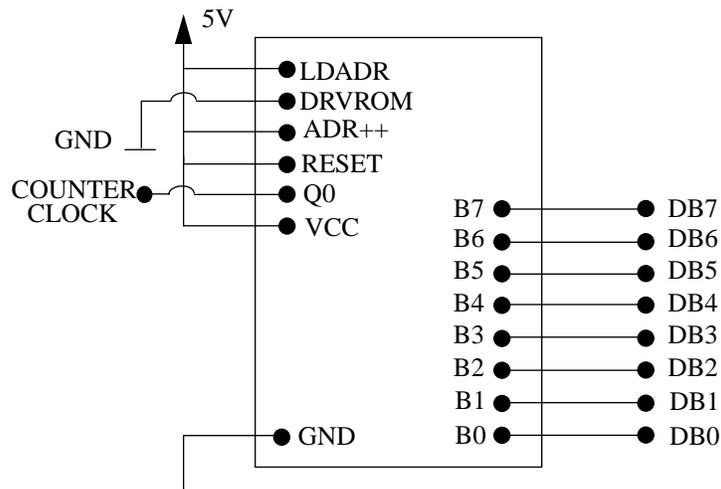

Figure 1: pin assignments for the printed circuit board that contains the counter and memory.
Figure 1 shows the pin assignments for the printed circuit board. The pins for the eight memory output data bits are on the right hand side. The pins for power and ground, and the clock input to the counter are on the left hand side. You should connect the power pin to the 5-V power supply on the protoboard, and the ground pin to ground on the protoboard. There are also four counter and memory control pins which must be
connected to the 5-V power supply and ground as shown in Figure 1.
- (4-5) Connect the eight data-bit inputs of the digital-to-analog converter to their corresponding data-bit outputs from the memory; refer to Figure 1 for the memory pin assignments. With the oscilloscope, observe the converter output v_{DAC} . You should see an audio signal reconstructed in a piecewise constant manner. Adjust the offset voltage v_{OFF} so that the audio signal is centered around 0 V.